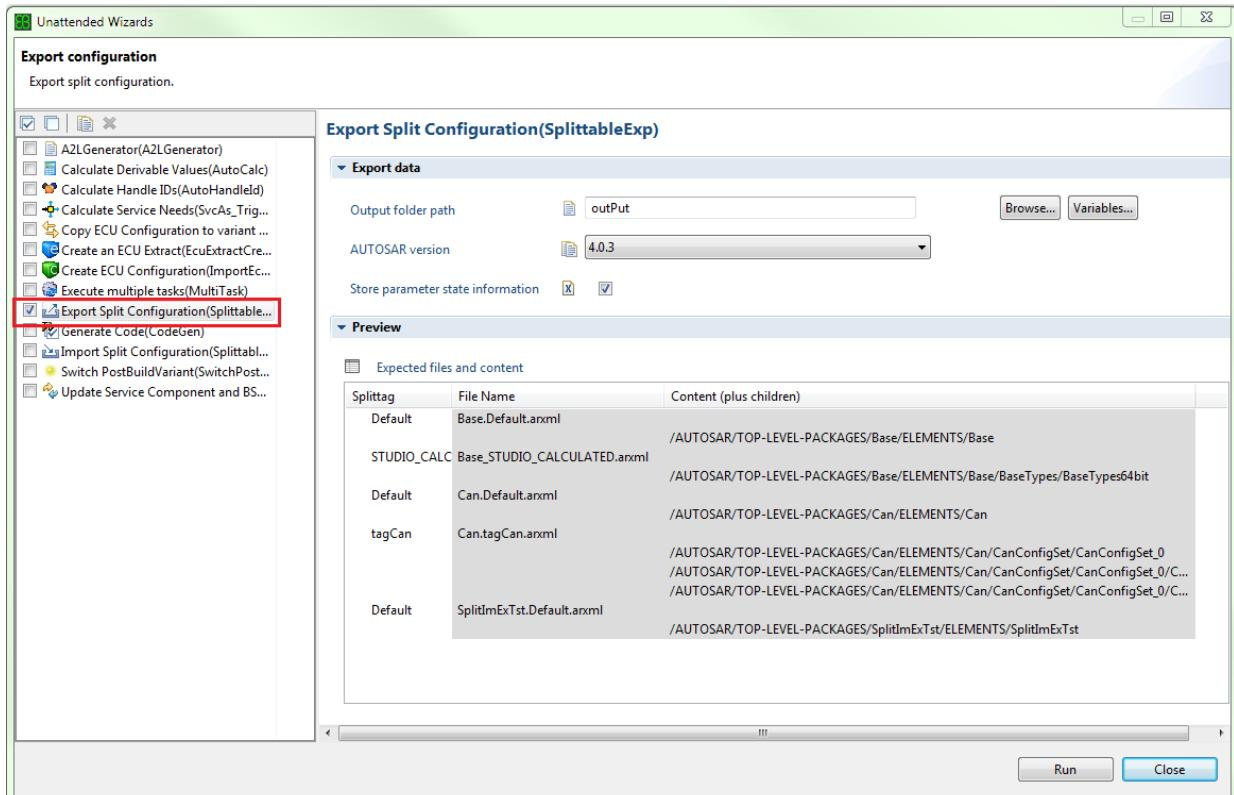

Figure 7.53. Opening the Export Split Configuration wizard
- In the **Output folder path** text field, specify a valid output folder path. See Figure 7.53, “Opening the Export Split Configuration wizard” Output folder path.